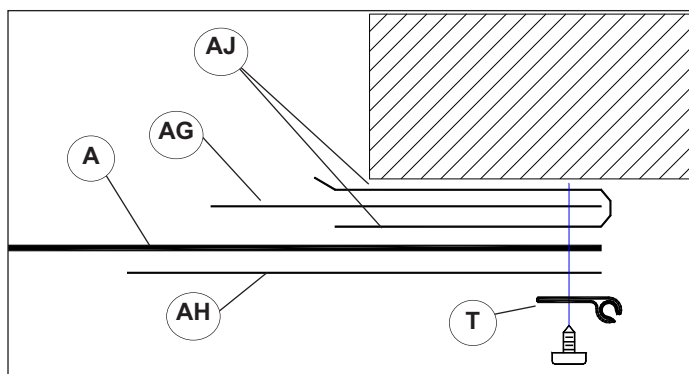

Figure 6.3
- Provided is a pressure strap (T) that needs to be fastened to the wall to secure the screen material.
- When positioning the curtain to be strapped down, make sure that the front long storage straps (AH) are in front of the curtain, one short strap is between the curtain and storage cover, and the other short strap is behind the storage cover, **Figure 6.3**.
- Open door and fold out storage cover (AG).
- Take the short straps (AJ) from the back and tie with the long straps from the front.
- The long straps are in the front and the short ones are in the back, **Figure 6.3**.